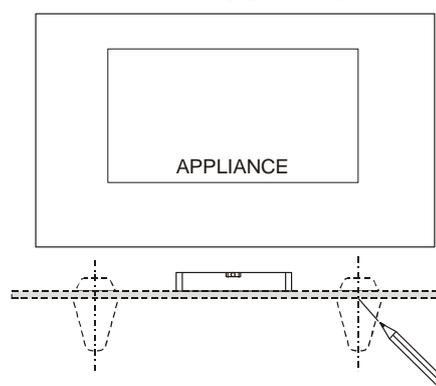

Figure 49
1. At the desired position under the appliance mark the positions for fixing the two support brackets. Ensure that the positions of the brackets are level (see **Figure 49**).